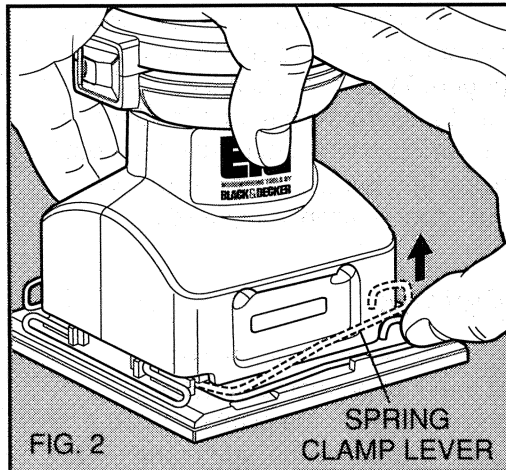

FIG. 2 SPRING CLAMP LEVER
2. Release clamp by pulling up on clamp lever and disengaging it from the tab on the base plate. (See Fig. 2)